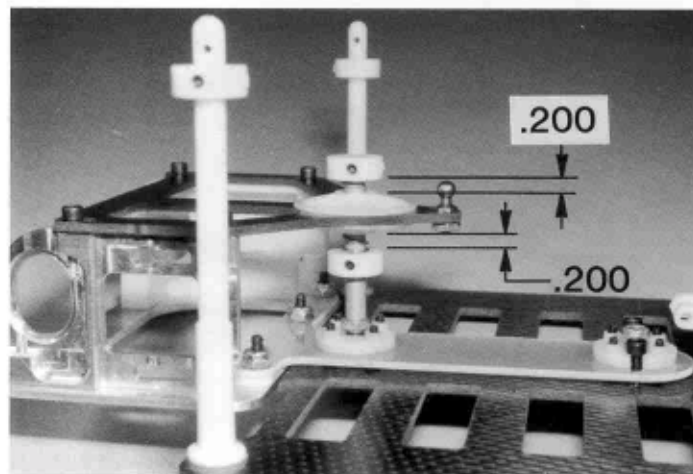

Fig. 40
□ **Fig. 40**— After the car is completely assembled, the two collars should be adjusted so both springs are collapsed exactly the same amount—about a .200" gap at each spring. We'll have to adjust this later when we come to Fig. 77. Do not check off the square yet.